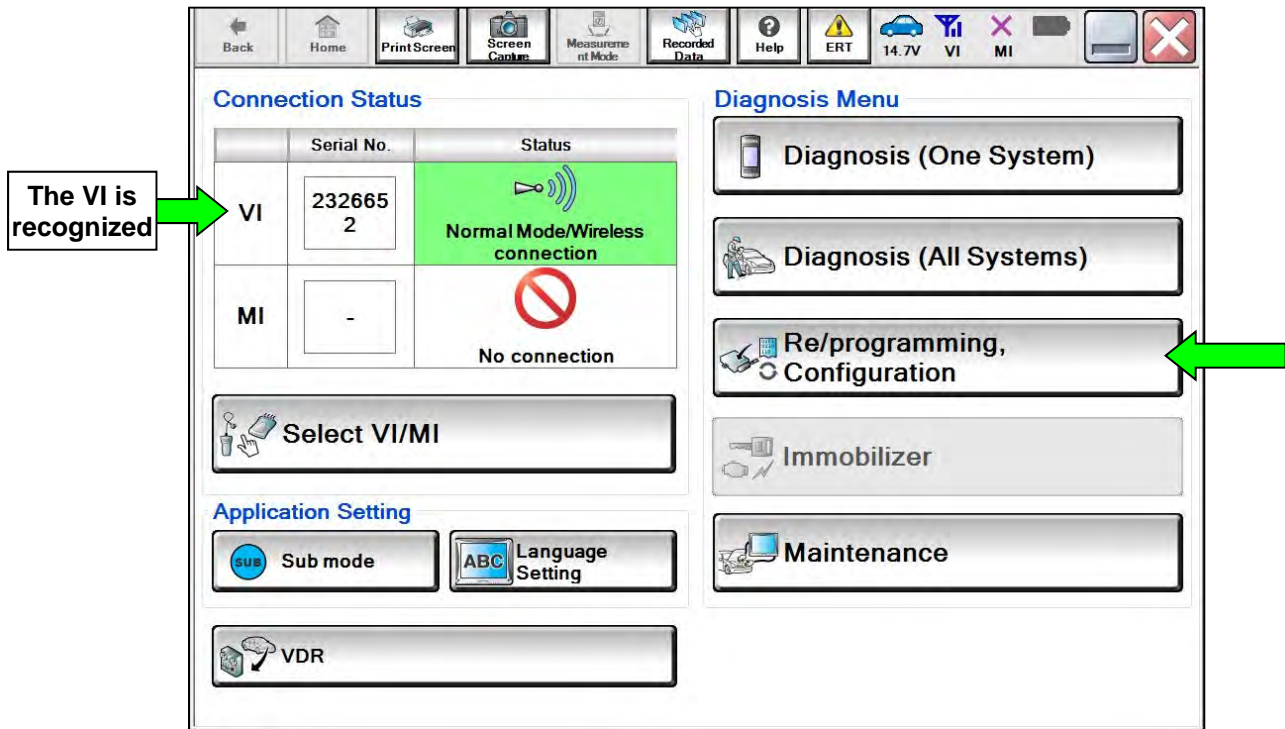

Figure 1
- The serial number will display when the VI is recognized (Figure 1 on page 3).